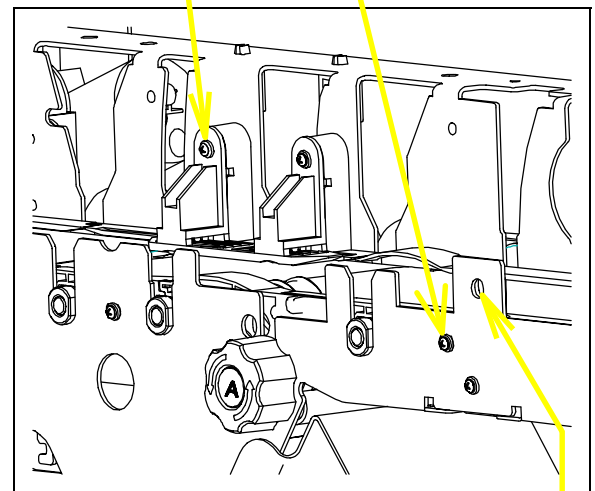

Figure 2
6. Remove (2) #8-32 mag-finger screws and finger assembly. (Figure 2)